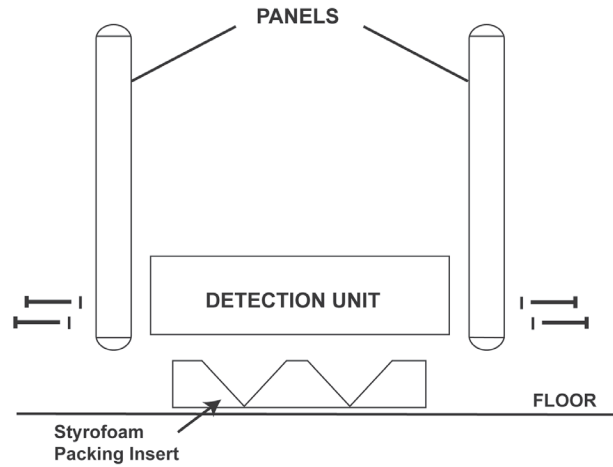

Figure 2-2
- Place the packing insert on floor as shown in Figure 2-2.